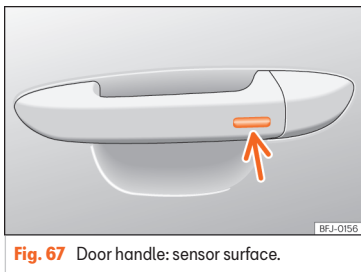

Fig. 67 Door handle: sensor surface.
- **OR:** using the Keyless Access system (only locking): Press and hold the locking sensor surface  **Fig. 67** (arrow) on the door handle for several seconds to close the windows and the sunroof. If you stop touching the sensing surface, the locking function is interrupted.
Press and hold the locking sensor surface **>>> Fig. 67** (arrow) on the door handle to close the sunroof. If you release the sensor surface, the closing movement stops.